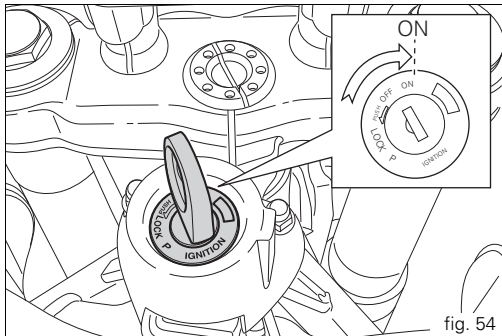

fig. 54
- 1) Move the ignition key to ON (fig. 54). Make sure the green light N (8, fig. 3) and the red light  (7, fig. 3) on the instrument panel are on.